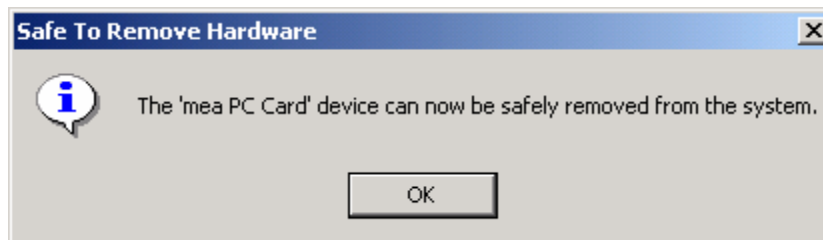

Figure 42. Safe to Remove Hardware - WMC6300 Card
2. Wait for a message that indicates that the device may be safely removed from the system as shown in Figure 42.